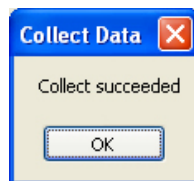

Figure 42: Collect Data Status
- If this process has been successful, Figure 42 appears; otherwise an error message appears.